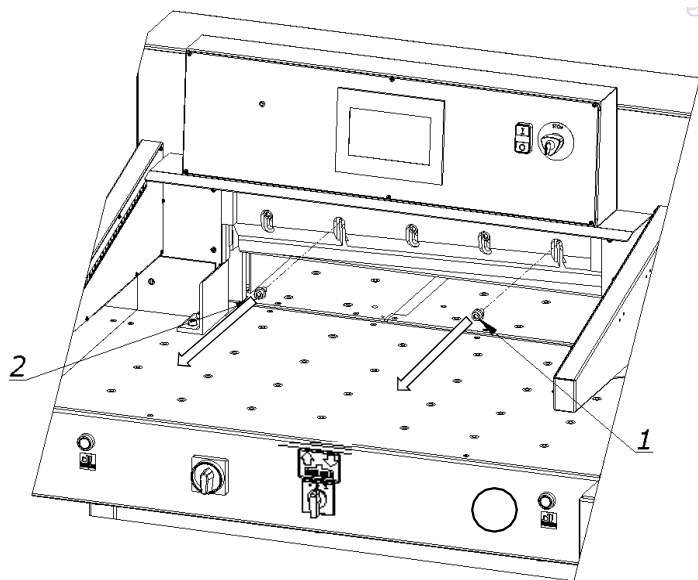

Figure 24.
8.1.1.8. Unscrew and remove the mounting screws (1) and (2) (Fig. 24).